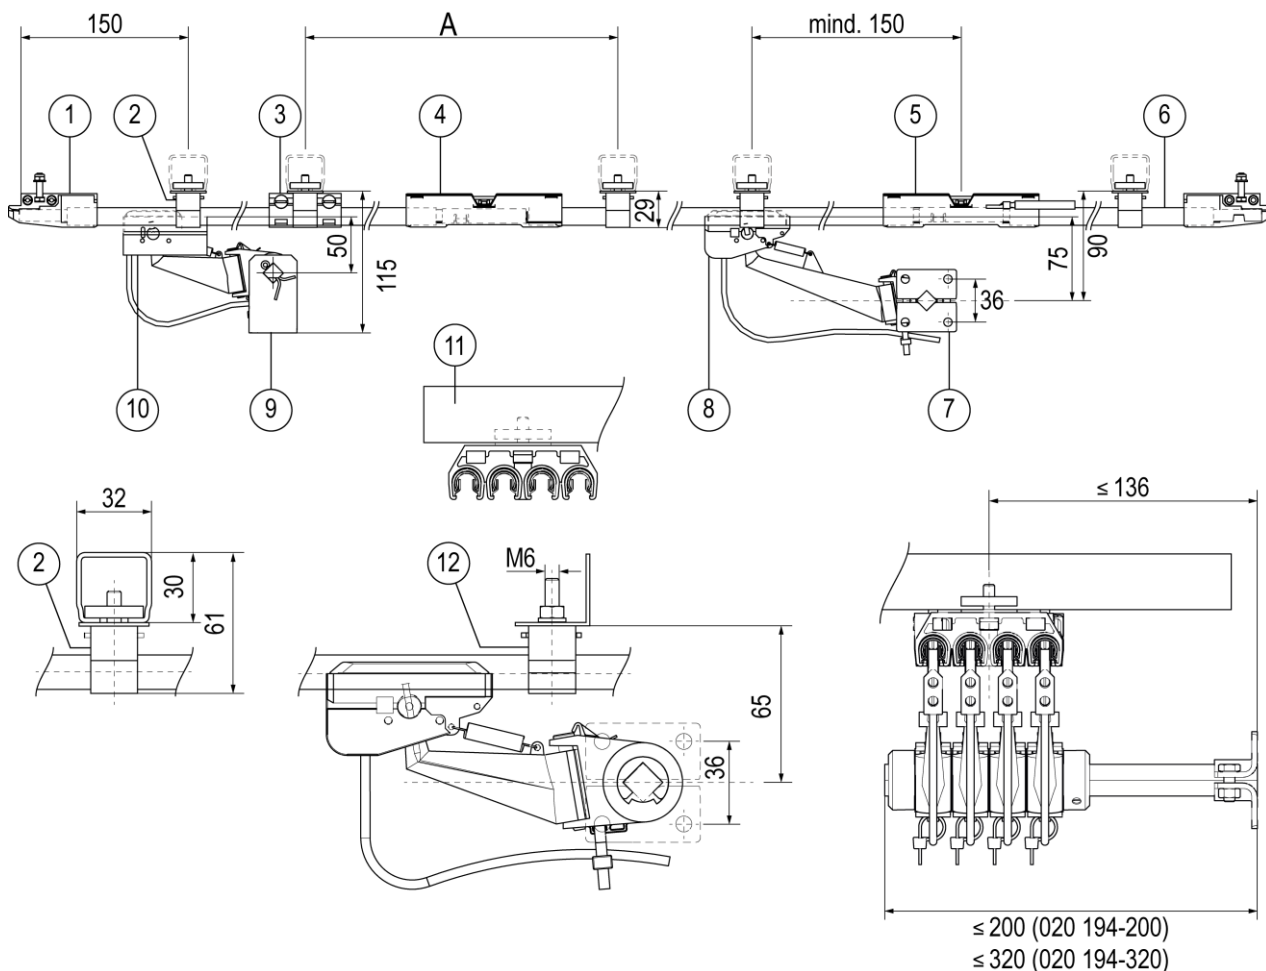

Fig. 46: Components in a conductor rail system
- Screw on hanger clamp at the specified distance. The minimum distances to other components must be observed (see Fig. 46).